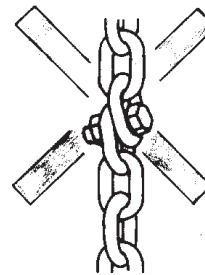

Fig. 7
- Do not knot or shorten the load chain by using bolts / screws / screwdrivers or other devices (fig. 7). Do not repair load chains installed in the hoist.